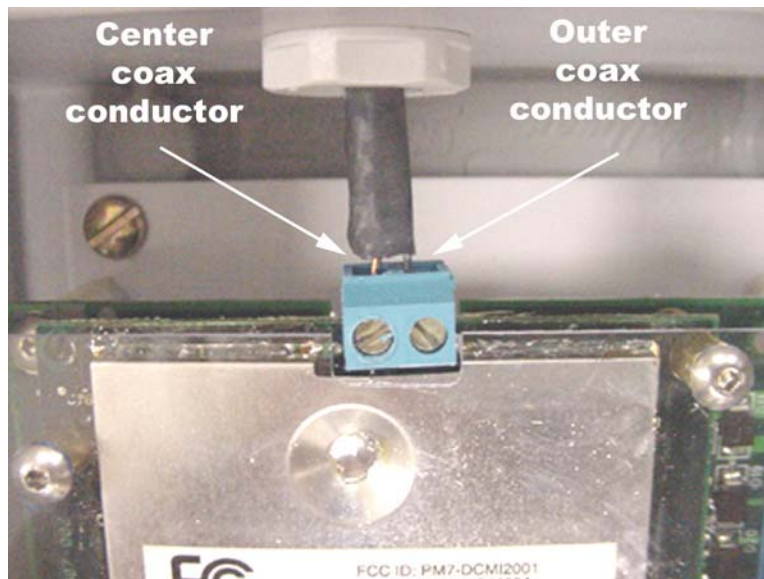

Figure 5-20 – WRI PCB Antenna Terminal Block Connections
- 5.8.7 Attach the Remote Antenna Coax to the WRI PCB Antenna Terminal Block (Figure 5-20).